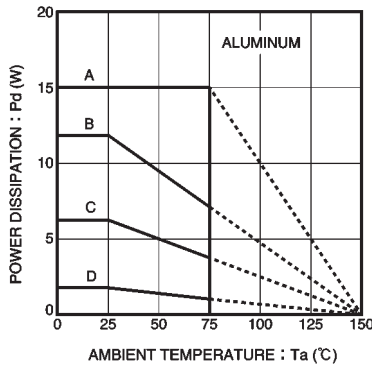

Fig. 11 Power dissipation curves (BA5416)
*4 $T_a = 75^\circ C$ (see Fig. 11).